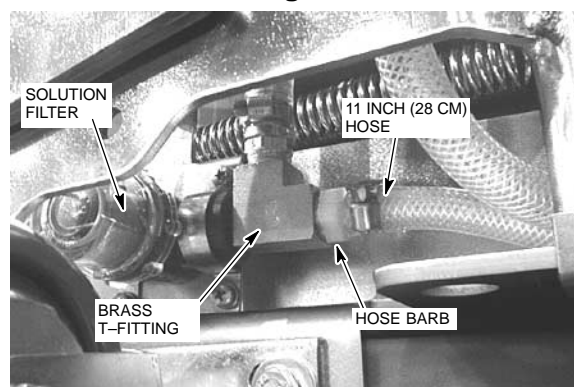

Fig. 2
6. Remove plug from brass T-fitting, located near solution filter, and replace with nylon hose barb provided, use pipe tape. Connect 11 inch (28 cm) solution hose to hose barb, secure with clamp (Fig. 2)